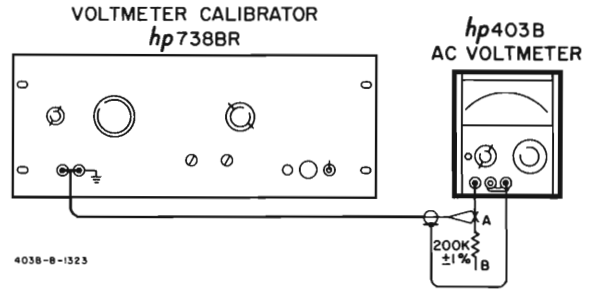

Figure 5-4. Performance Check Setup
- b. Connect the 403B as shown in Figure 5-4.
- a. Disconnect the 403B from the setup shown in Figure 5-4 and rotate the 403B FUNCTION switch to ON.
- a. Connect the 403B as shown in Figure 5-4 (Position B).
- b. Connect the 403B as shown in Figure 5-4 (Position A).